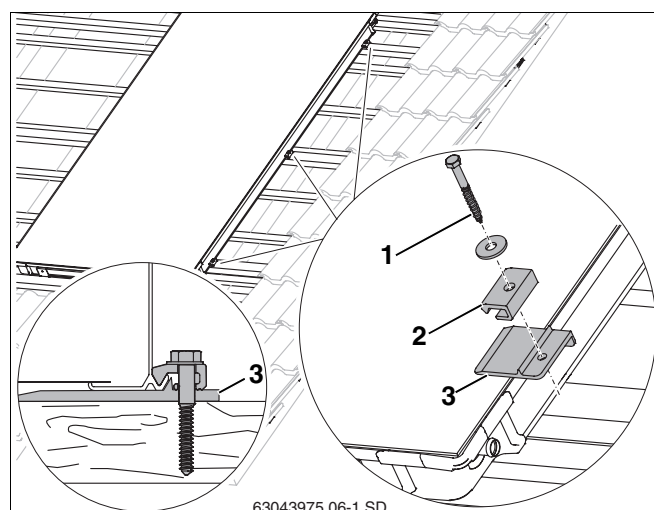

Fig. 23 Laying first collector and screwing in place
- ▶ Lift collector slightly and, on the 2nd and 3rd additional battens, as well as halfway along the collector on a free batten, push the right-hand pack plates (Fig. 23, **Item 3**) under the collector until the roof pushes against the lower edge of the collector.
- ▶ For the screw (Fig. 23, **Item 1**) drill a pilot hole with a 4 mm drill.
- ▶ Fasten the single-sided clamps (Fig. 23, **Item 2**) with a 6x40 screw (Fig. 23, **Item 1**) and washer (use size 10 spanner).